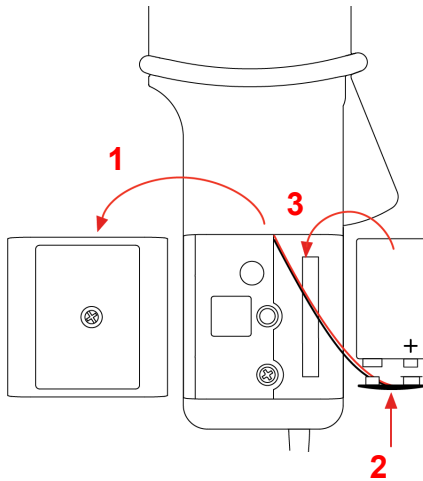

Figure 2
1. Using a screwdriver, remove the battery compartment cover (1) from the back of the housing (see Figure 2).
2. Connect the battery to the snap-on connector (2), observing polarity.
3. Place the battery into the battery compartment (3).